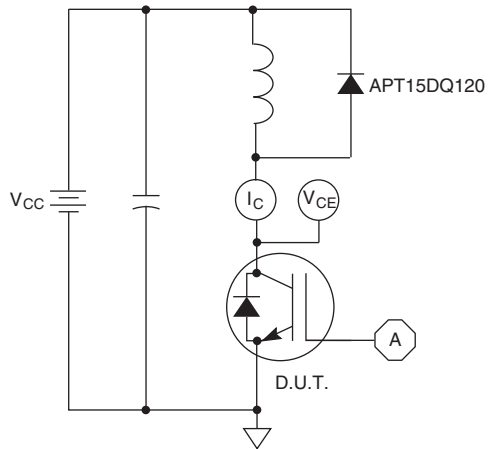

Figure 21, Inductive Switching Test Circuit
① Repetitive Rating: Pulse width limited by maximum junction temperature.
② For Combi devices, I_{ces} includes both IGBT and FRED leakages
③ See MIL-STD-750 Method 3471.
④ E_{on1} is the clamped inductive turn-on energy of the IGBT only, without the effect of a commutating diode reverse recovery current adding to the IGBT turn-on loss. Tested in inductive switching test circuit shown in figure 21, but with a Silicon Carbide diode.
⑤ E_{on2} is the clamped inductive turn-on energy that includes a commutating diode reverse recovery current in the IGBT turn-on switching loss. (See Figures 21, 22.)
⑥ E_{off} is the clamped inductive turn-off energy measured in accordance with JEDEC standard JESD24-1. (See Figures 21, 23.)
⑦ R_G is external gate resistance, not including R_{Gint} nor gate driver impedance. (MIC4452)